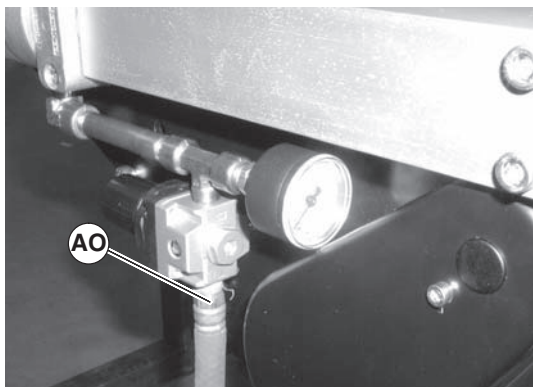

Figure 32
5. Reattach air supply (Figure 32, item AO) to center drive. Refer to “Conveyor Belt Tensioning” section on page 15 for more information.
7. Reattach air supply (Figure 32, item AO) to center drive. Refer to “Conveyor Belt Tensioning” section on page 15 for more information.